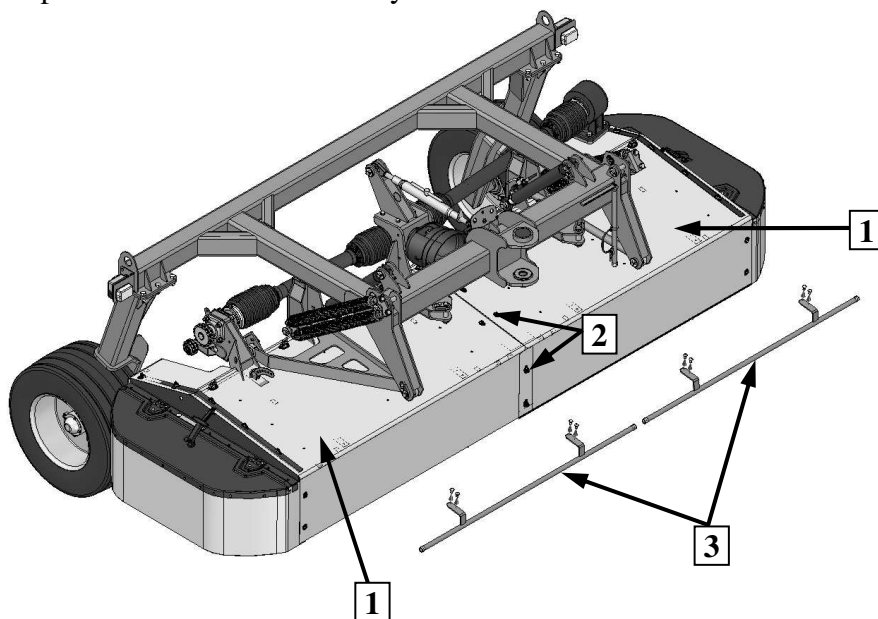

Fig. 6. Mounting safety curtain guard on the mower
SaMASZ mowers feature standard safety curtains (1) for self-fitting. In order to put the curtain properly put it on the mower and secure with catches (2) and with front guard (3) **Fig. 6**. Examine condition of curtains and their mounting on a regular basis. Fix immediately if damaged and replace if missing. Do not operate mower without safety curtains.